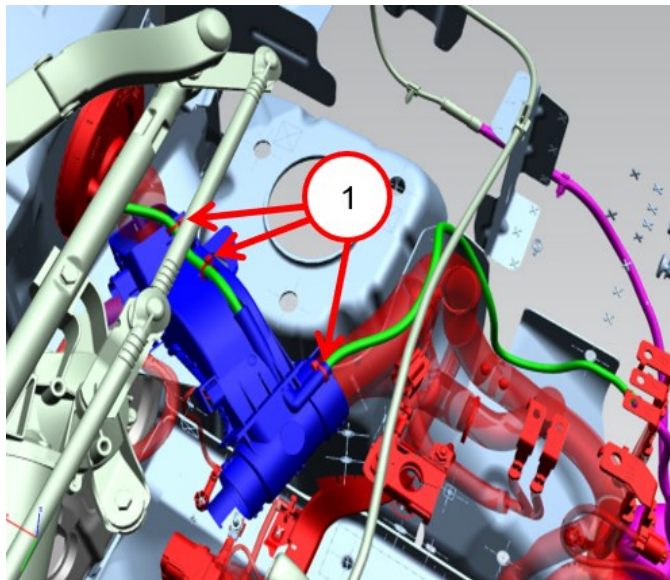

Fig. 8
14. After routing the new hose, close the clips in the trough and install **NEW** tie down straps Fig. 8.